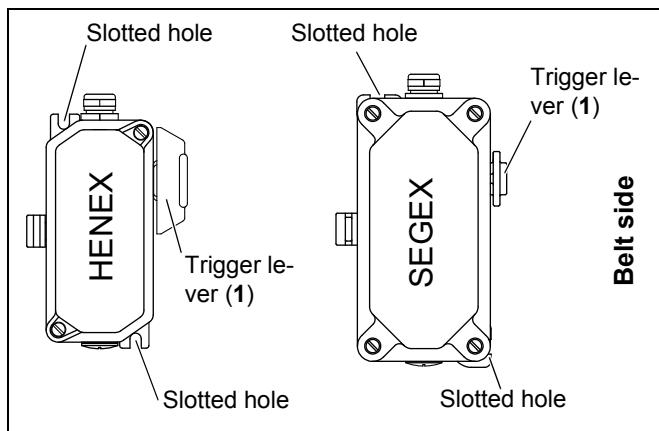

Fig. 5-3: Mounting the pull-rope emergency stop switch
2. Secure the pull-rope emergency stop switch *centered* between the attachment points on the conveyor structure (*Mounting dimensions see Section 4.4, page 16*). In doing so, the actuating lever (1) must point towards the belt. Attach the pull-rope emergency stop switch by screwing two screws through the slotted holes (see fig. 5-3).